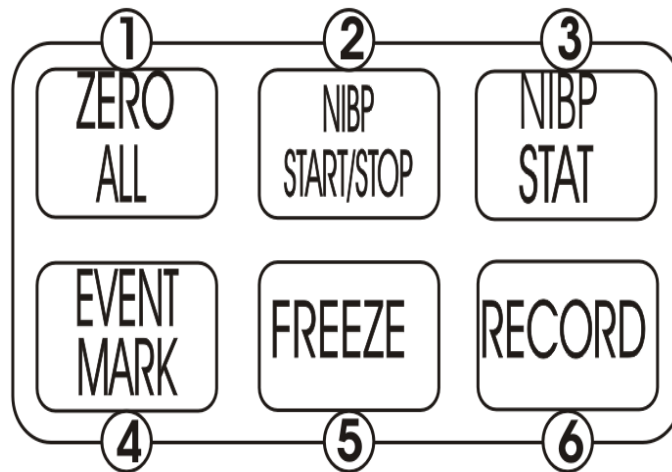

Figure 1-2. The Direct Control Keys
- b. **Direct Control Keys.** (See Figure 1-2) There are six Direct Control keys: **ZERO ALL**, **NIBP START/STOP**, **NIBP STAT**, **EVENT MARK**, **FREEZE** and **RECORD**. These keys provide the operator with direct control of the following features: Starting/Stopping NIBP Readings, Starting/Stopping the NIBP STAT Mode, Freezing all Traces, Starting the Recorder, Adding a Marker to the Recorder and Zeroing all Invasive Pressure Channels.
- (1) **ZERO ALL. (Item 1)** The Pressure Transducer is zeroed by the **3150(M) MRI Patient Monitor** in the MRI Magnet Room, therefore this key is inactive and pressing it will display a message to indicate that this function is not available in the Remote Mode of Operation. See the 3150/ 3150M MRI Patient Monitor Operation Manual (Part Number 9538) for further information.
- (2) **NIBP START/STOP. (Item 2)** This key starts a new NIBP measurement, or stops a measurement that is already in progress.
- (3) **NIBP STAT. (Item 3)** This key starts the NIBP STAT Mode measurements. This mode may be terminated by depressing the **NIBP START/STOP** key. The STAT Mode performs up to five (5) NIBP measurements in rapid succession (with a short pause between readings) within a maximum time frame of five (5) minutes. This feature is not available with dual monitor software (MPC01 or higher).
- (4) **EVENT MARK. (Item 4)** The **EVENT MARK** key prints a marker on the ECG Recorder Strip when the printer is running. If the printer is not running, pressing this key has no effect.
- (5) **FREEZE. (Item 5)** The **3155A/3155MVS Monitor** freezes the ECG waveform from Trace A for closer examination upon user demand. When the ECG trace is active, pressing the **FREEZE** key will freeze it into the Trace B location while Trace A remains active. When the trace is frozen, pressing the **FREEZE** key will release it. A “Blue Box” appears around the frozen waveform as a visual indication that the waveform is not active. While the Freeze feature is active, the monitor will not allow any changes to the Parameter Setups or Recall Setups; if the operator attempts to access the **PARAMETER SELECTION** or **RECALL SETUP** menus, a **WARNING** Box alerts the operator that entry to the selected menu is not allowed while **FREEZE** is enabled.
- (6) **RECORD. (Item 6)** Pressing this key records the Single Trace or Dual Trace selections (as specified by operator adjustments made in the **RECORDER** Menu). The recorder stops automatically after approximately 30 seconds, or when the **RECORD** key is pressed again; in either case, the printout ends with a “Snap Shot” of the active patient parameter data.